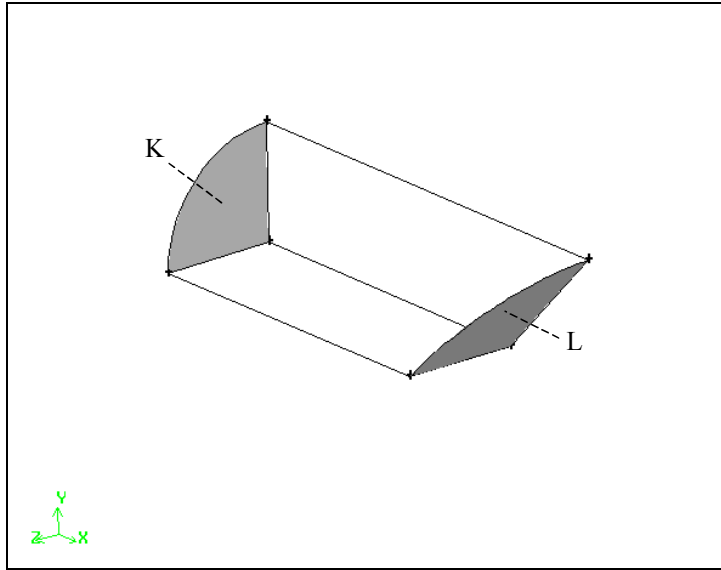

Figure 4-23: Faces to select for first Cooper meshing operation
The volume to be selected is shown in Figure 4-23.
- c) Left-click in the **Source** list box (which will turn yellow), and then select the faces marked K and L in Figure 4-23 as the **Source** faces.